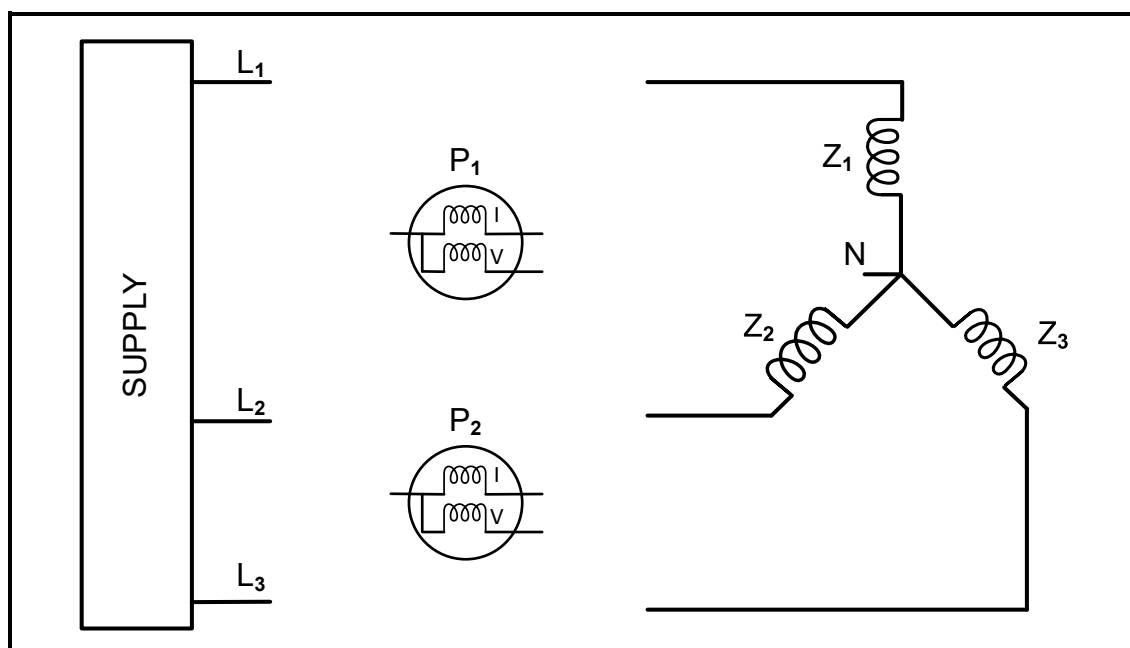

FIGURE 4.7: POWER MEASUREMENT IN A THREE-PHASE SYSTEM
4.7 FIGURE 4.7 below shows the diagram of a three-phase supply, a three-phase load and two wattmeters. Answer the questions that follow.
4.7.3 Redraw FIGURE 4.7 above and complete the drawing in your ANSWER BOOK to indicate how TWO wattmeters are connected to measure the total power. (6)